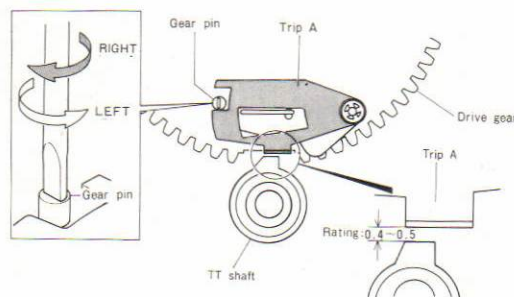

Fig. 8
- 2) When the standard clearance is not obtained, bend the gear pin to the left or right, and adjust the clearance between trip A and the platter. (Refer to Fig. 8)